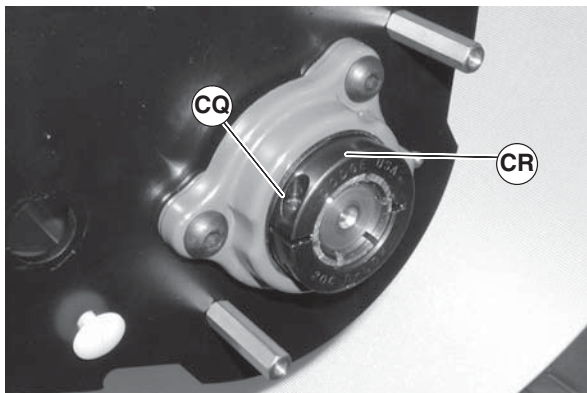

Figure 92
3. Loosen clamp screw (Figure 92, item CQ) and remove bearing collar (CR).
7. Reinstall bearing collar (Figure 92, item CR). Tighten clamp screw (CQ) to 95 in-lbs (11 N-m).